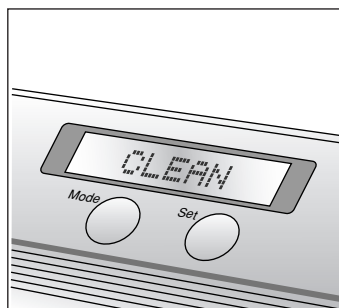

figure 3
- 3 Press the Mode button on the machine until "CLEAN" appears in the LCD (see figure 3).